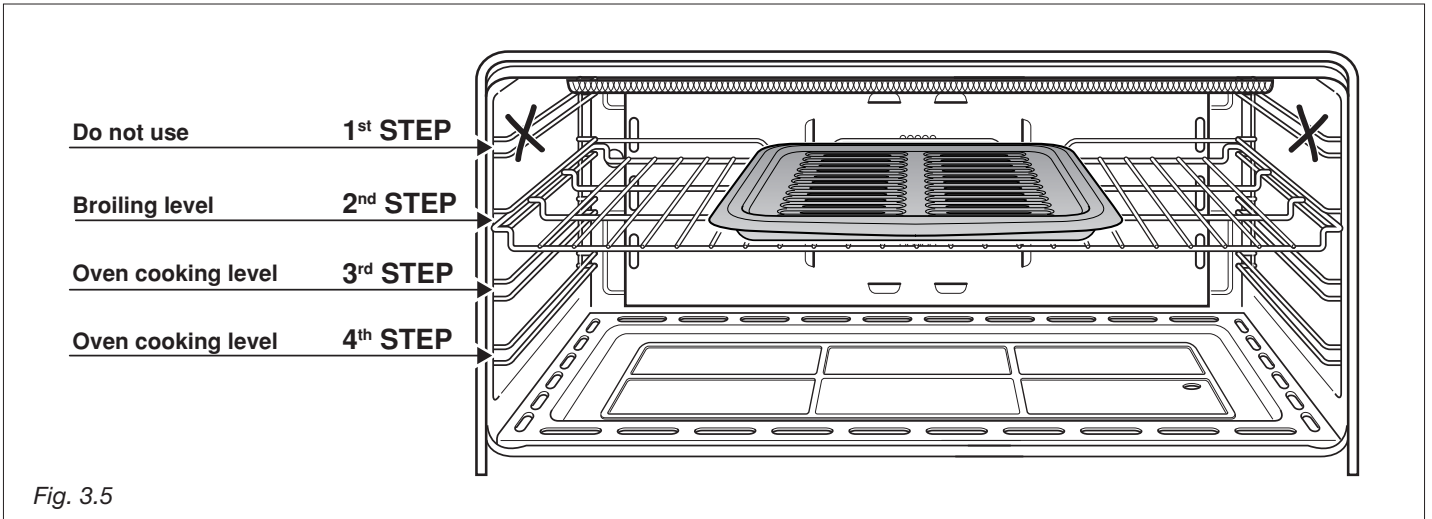

Fig. 3.5
- Position the shelf on the second level from the top (fig. 3.5).
- Introduce the broiling pan in the oven (fig. 3.8). The broiling pan should be placed above the shelf and it should be centered with the broil burner (fig. 3.5).